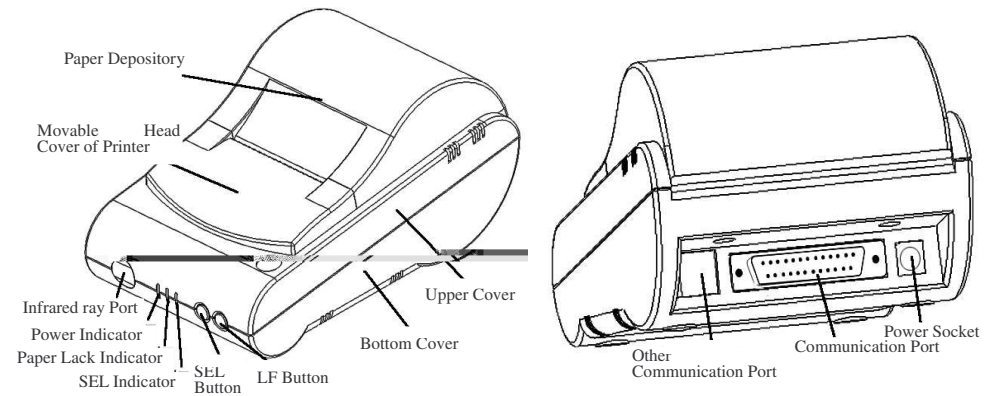

Fig.2-4
•T1 style printer's outline and configuration is as Fig.2-4 shows.